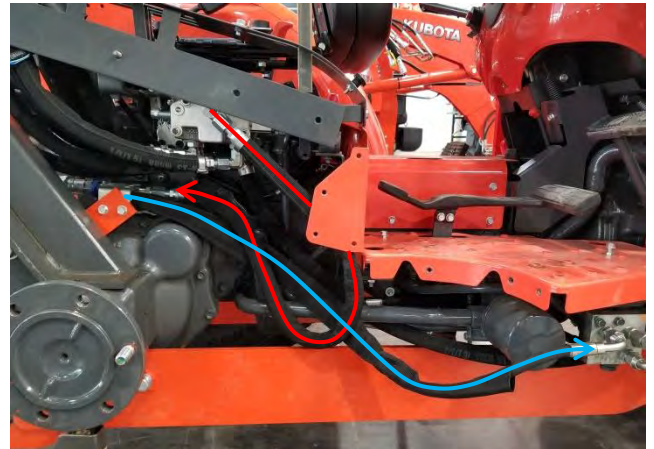

Figure 23: Hydraulic system routing for backhoe use
5. The rear remote return line (Ref 09) will now be installed between the outlet section of the valves (Ref 02) and the backhoe inlet section. See figure 23, this is the red line.
6. The return line that is included in the backhoe installation kit will still be used as normal. Follow the backhoe installation manual for installation of this hydraulic line. See figure 23, this is the blue line.